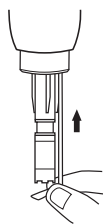

Figure 9
7. Replace the stir paddle by aligning it in the hole and firmly pushing it into place (see **Figure 9**).